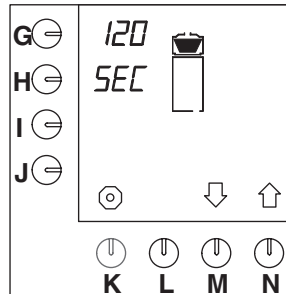

Fig. 36 Dripping-on time
- Press selection key (N.)↑ until fig.36 appears on the display.